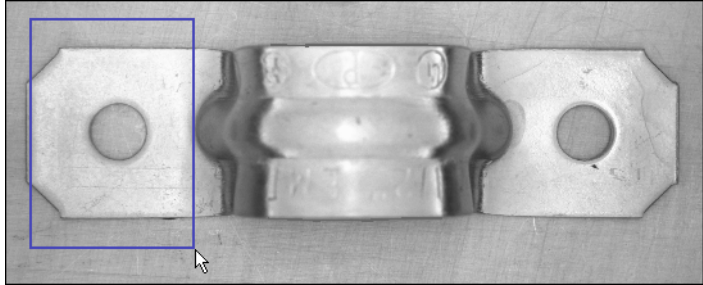

Figure 4-3. Selecting the First Search Area
11. With the **Rectangle Tool**, draw an ROI around the left side of the bracket, as shown in Figure 4-3. Be sure that the region you draw is larger than the template image and big enough to encompass all possible locations of the template in the other images you will analyze. Drawing a region of interest in which you expect to locate a template match is a significant step in pattern matching. It reduces the risk of finding a mismatch. It also allows you to specify the order in which you want to locate multiple instances of a template in an image.